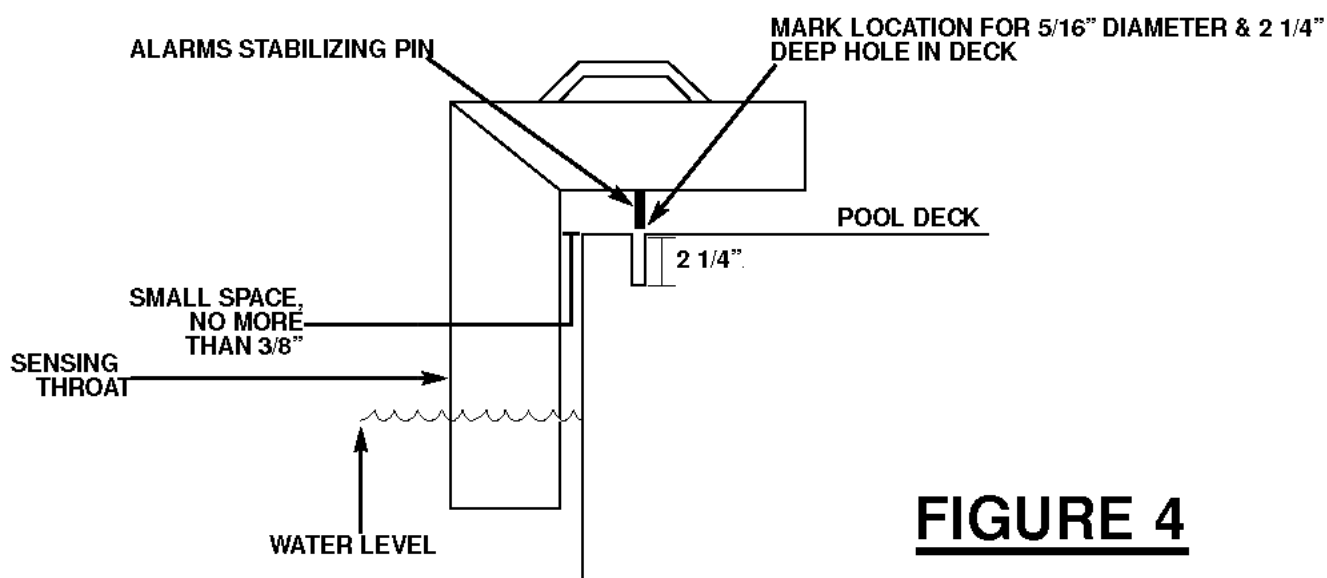

FIGURE 4
1. Position your pool alarm so that the sensing throat is in the water and the ASP is touching the deck, (Be sure to leave a small space between the sensing throat and the edge of your deck), Refer to Figure 4.